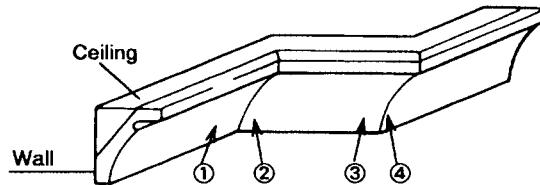

Fig. 29
For the typical crown molding fittings, see Fig. 29.
(1) Setting to cut crown moldings at positions ① and ④ in Fig. 29
(2) Setting to cut crown moldings at positions ② and ③ in Fig. 29
(3) Setting to cut crown moldings at positions ① and ④ in Fig. 29
(4) Setting to cut crown moldings at positions ② and ③ in Fig. 29